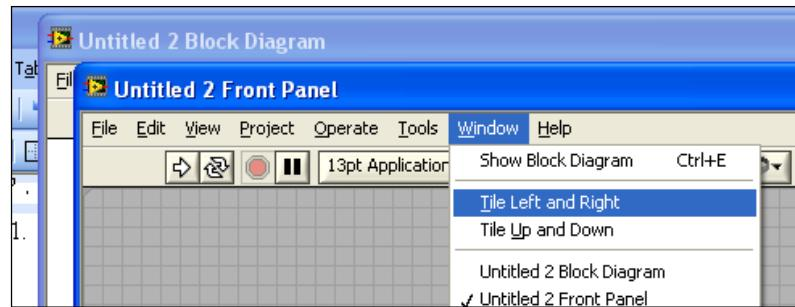

Figure 2. The “Front Panel” and “Block Diagram” windows.
2. Two windows will appear: a) the **Front Panel** and b) the **Block Diagram**. (You could tile both windows side-by-side by selecting **[Window]→[Tile Left and Right]** menu item as shown in Figure 2).